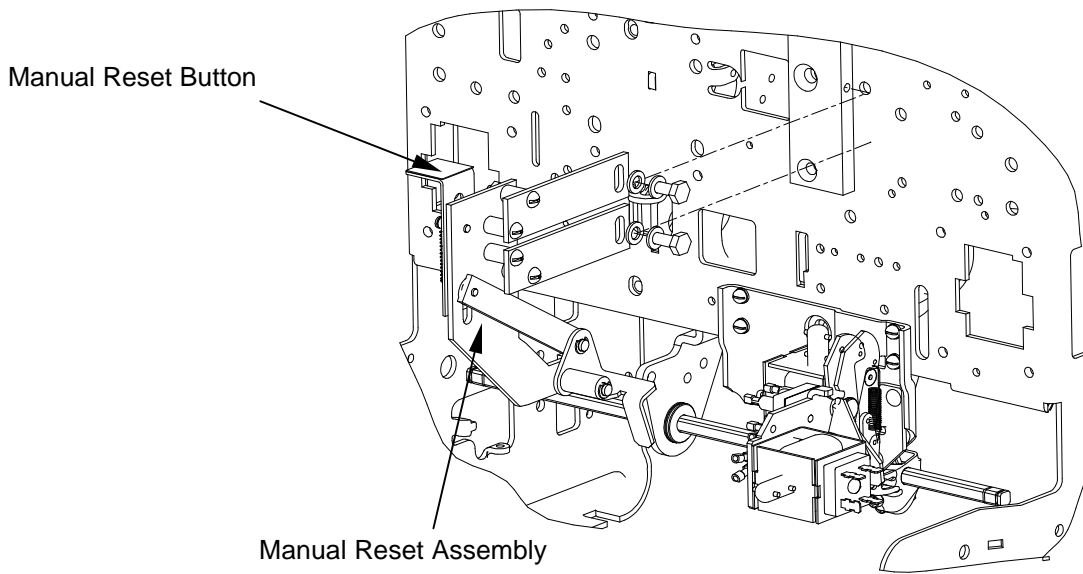

Figure 7. Mounting the manual reset assembly
12. Assemble the manual reset using two sets of ¼ inch hex-head bolts, spring washers, and flat washers as shown in Figure 7.
Use the following procedure, illustrated in Figure 7, to remove the Network Interlock module.
2. Remove the manual reset assembly by removing the two hex-head screws as shown in Figure 7.